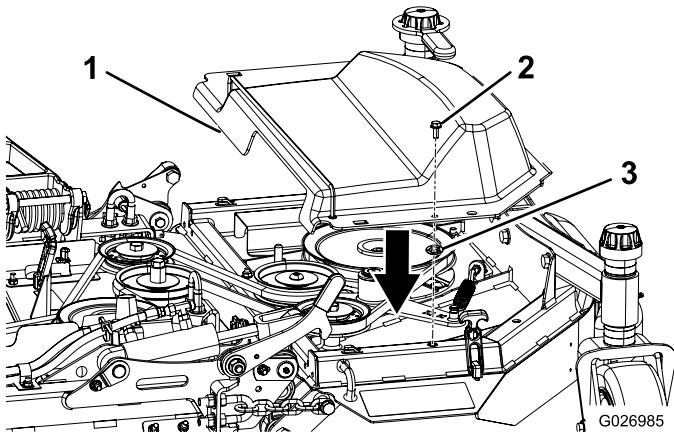

Figure 12
4. Install a bolt and a push nut to the right plastic cover (Figure 12).